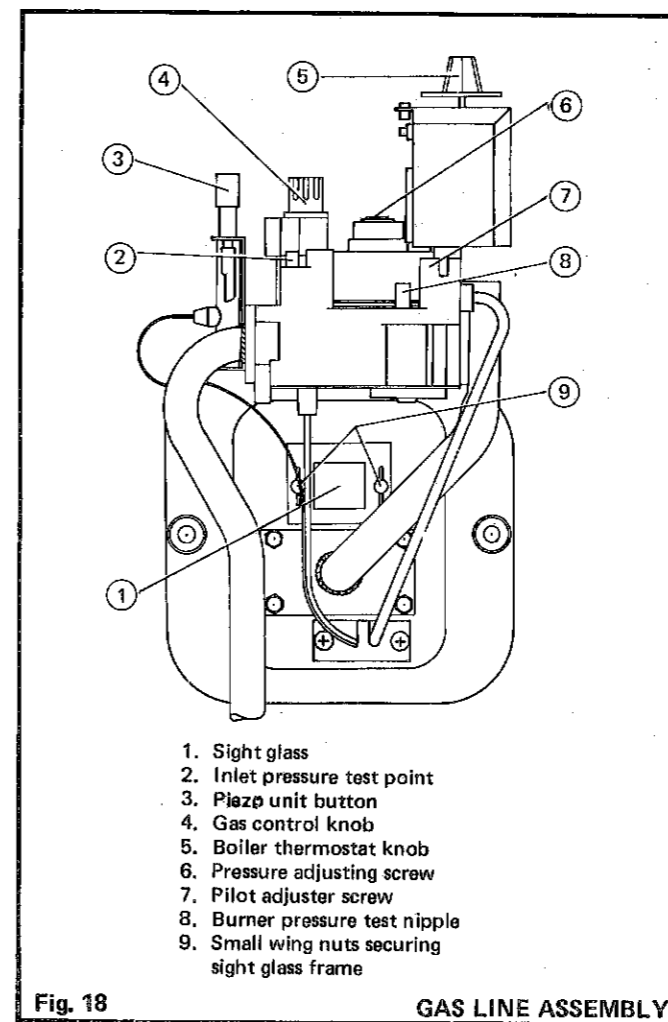

Fig. 18 GAS LINE ASSEMBLY
**INITIAL LIGHTING INSTRUCTIONS (Refer Fig. 18)**
3. Check the appearance of the pilot flame and, if necessary, make appropriate adjustment by use of the pilot adjuster screw, refer (7) Fig. 18 - 'Initial Lighting Instructions'.
- The pilot flame covers 13mm (1/2in) of the thermocouple tip. Turn the adjuster screw (7) - Fig. 18, anti-clockwise to increase the flame, and clockwise to decrease it.
Any required adjustments should be made by using the pressure adjustment screw (6) illustrated in Fig. 18.